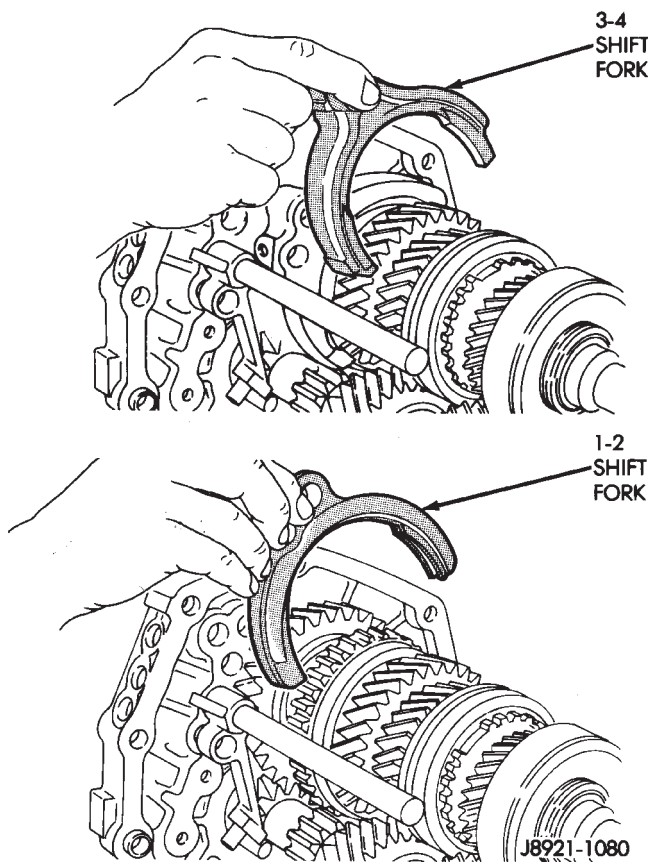

Fig. 88 Shift Fork Installation
(4) Position 1-2 and 3-4 shift forks in synchro sleeves (Fig. 88).